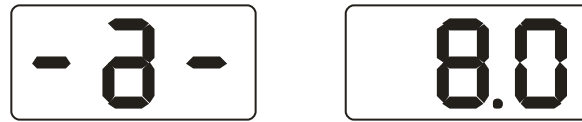

Fig 7-1
After the power-on of the machine, it starts initialization automatically. The initialization will be finished after two seconds. The machine enters normal dynamic balancing mode (clamp counterweights on the both rim edge) automatically, as in Fig 7-1, ready for input data of rim
9.1 After the power-on of the machine, the initialization is finished (Fig 7-1), install a middle size balanced rim which can be clamped with counterweight, follow 7.2 to input data of rim;
1. Press [a-] or [a+] key, Fig 7-1;